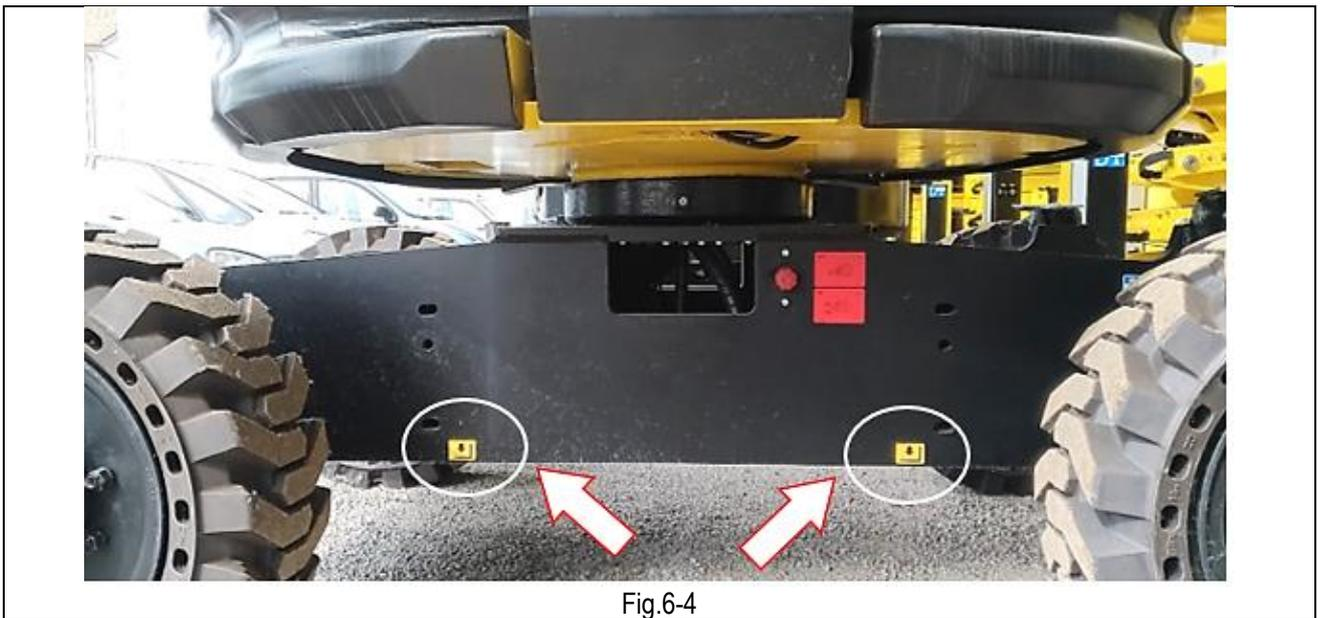

Fig.6-4
- **Through a lift truck** of a suitable capacity (see machine weight in table “Technical features” at the beginning of this manual) equipped with forks having at least the same length as the machine width. Insert the forks as indicated by the stickers on the machine (see figure 6-4). **Should these stickers be not available, DO NOT lift the machine by means of a lift truck.**